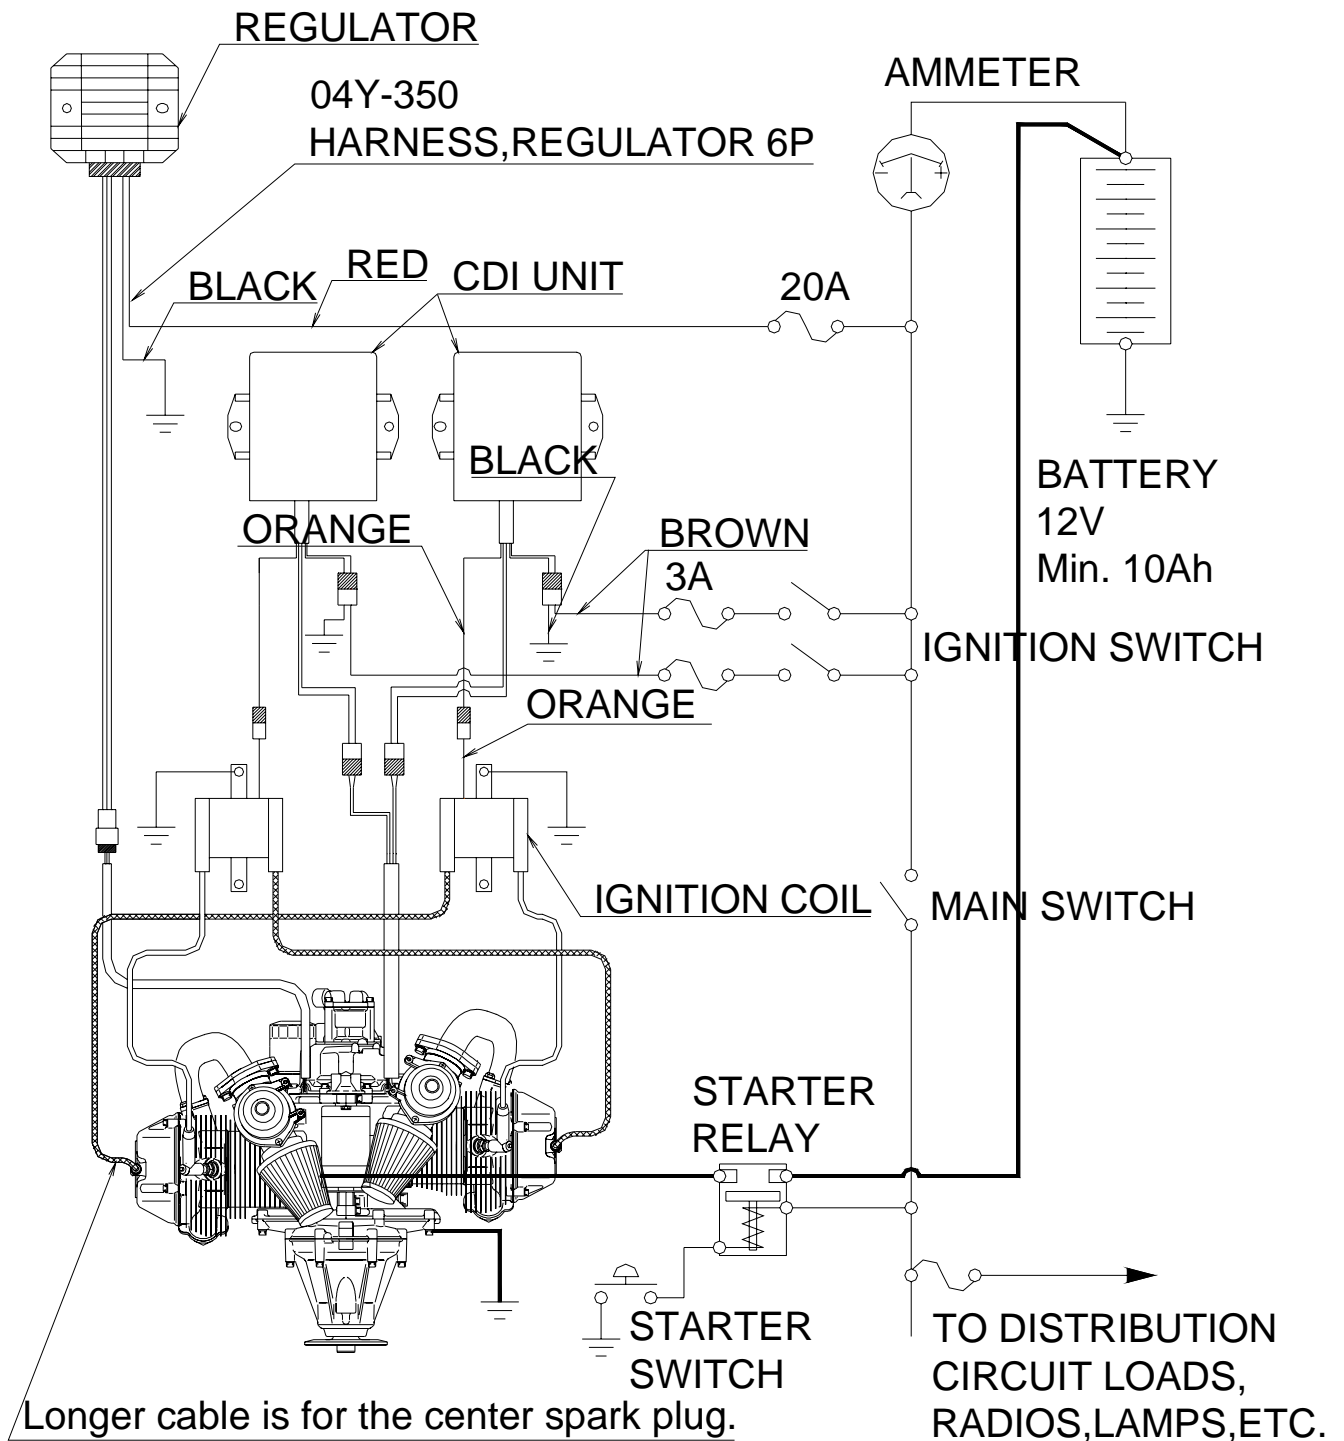

Fig.6 Electrical Equipment Wiring Diagram
Please refer to the electric equipment diagram in Fig 6.
A starter relay must be used to run the starter motor (refer to Fig.6).
- Between the electrical accessory terminal (shown as user load terminal in Fig.6) and the main power supply.
Please follow the wiring diagram in Fig.6. If an extension lead is required, please order terminal connectors.
The lengths of the two cables from the ignition coils are different. The connector on the longer cable is for the spark plug located in the center of the cylinder only. Refer to Fig.6 for connections. To avoid shorting the cable or breakage, keep the cables away from touching cylinders or cylinder heads. Protect with spiral cut polyethylene tubing, a fuel line/tie-wrap standoff or clamp if necessary.
- Recheck the wiring according the electrical schematic in Fig.6.